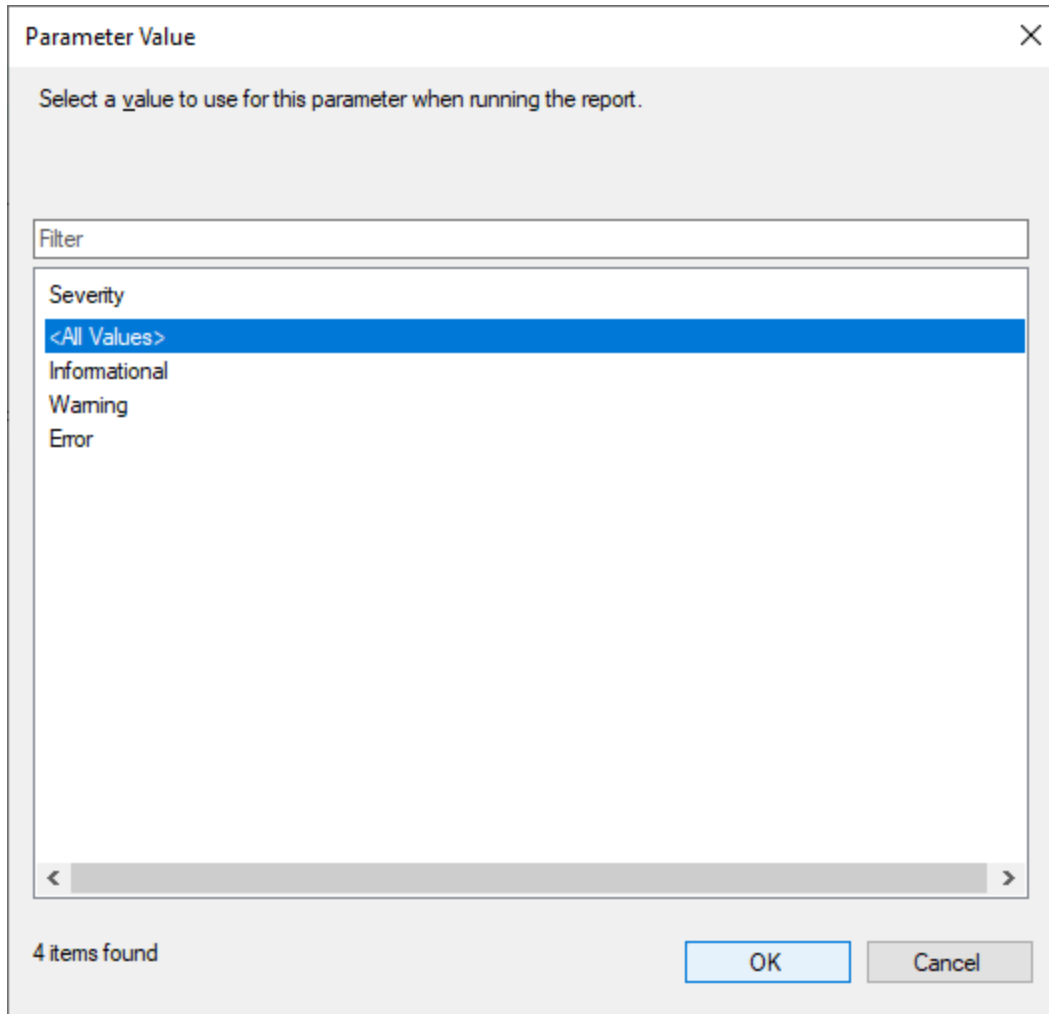

Figure 160: Choosing Severity
- 1) Choose Severity as shown in Figure 160